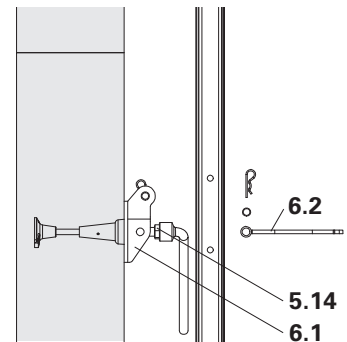

Fig. B1.32
4. Fix Bracing Shoe Wall CB M24 (6.1) to the cone using Bolt M24 x 70 (5.14) SW 36, after the bolts have been removed from the tension plate (6.2). Re-insert tension plate through the platform post and re-bolt in the bracing shoe. (Fig. B1.32)